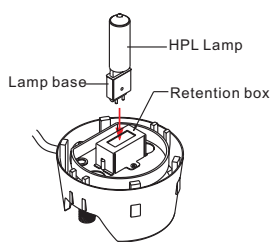

Figure 1
Step 4: If the lamp base is the same as shown in **figure 1**, then insert the 240V/575W GX-9.5 lamp into the lamp-socket.